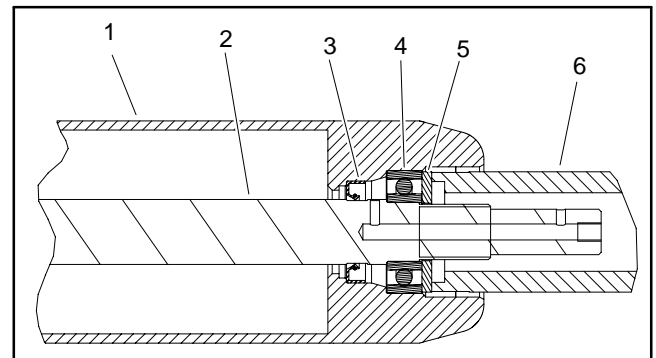

Figure 15
B. Use washer and bearing/outer seal tool (see Special Tools in this chapter) with a soft face hammer to fully seat bearing (Fig. 15). After bearing installation, make sure that shaft freely rotates and that no binding is detected. If necessary, lightly tap bearing and/or shaft ends to align shaft and bearings. Remove washer from roller.